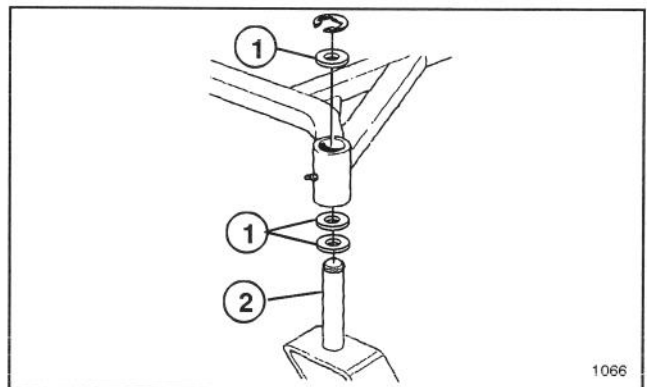

Figure 16
3. To change front-to-rear pitch move equal number of thrust washers on both front castor shafts. Move thrust washers from top to bottom to raise, or bottom to top to lower pitch (Fig. 16).
3. To change side-to-side leveling move thrust washers on one front castor shaft only. Move thrust washers from top to bottom to raise, or bottom to top to lower (Fig. 16).